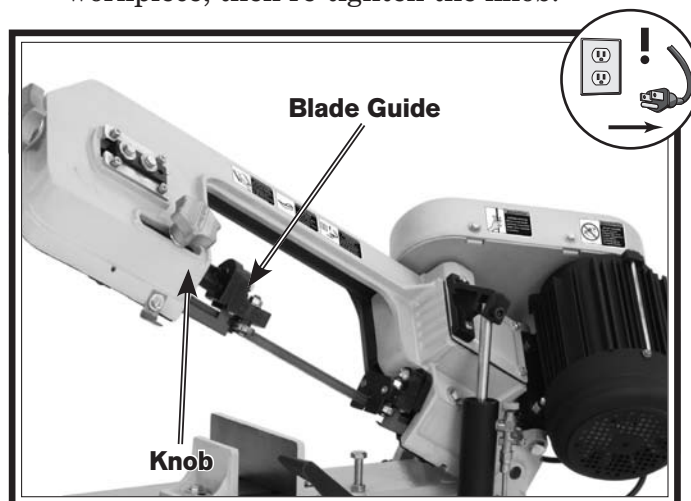

Figure 40. Blade guides.
2. Loosen the knob shown in **Figure 40** and slide the blade guide to within  $\frac{1}{4}$ " of the workpiece, then re-tighten the knob.